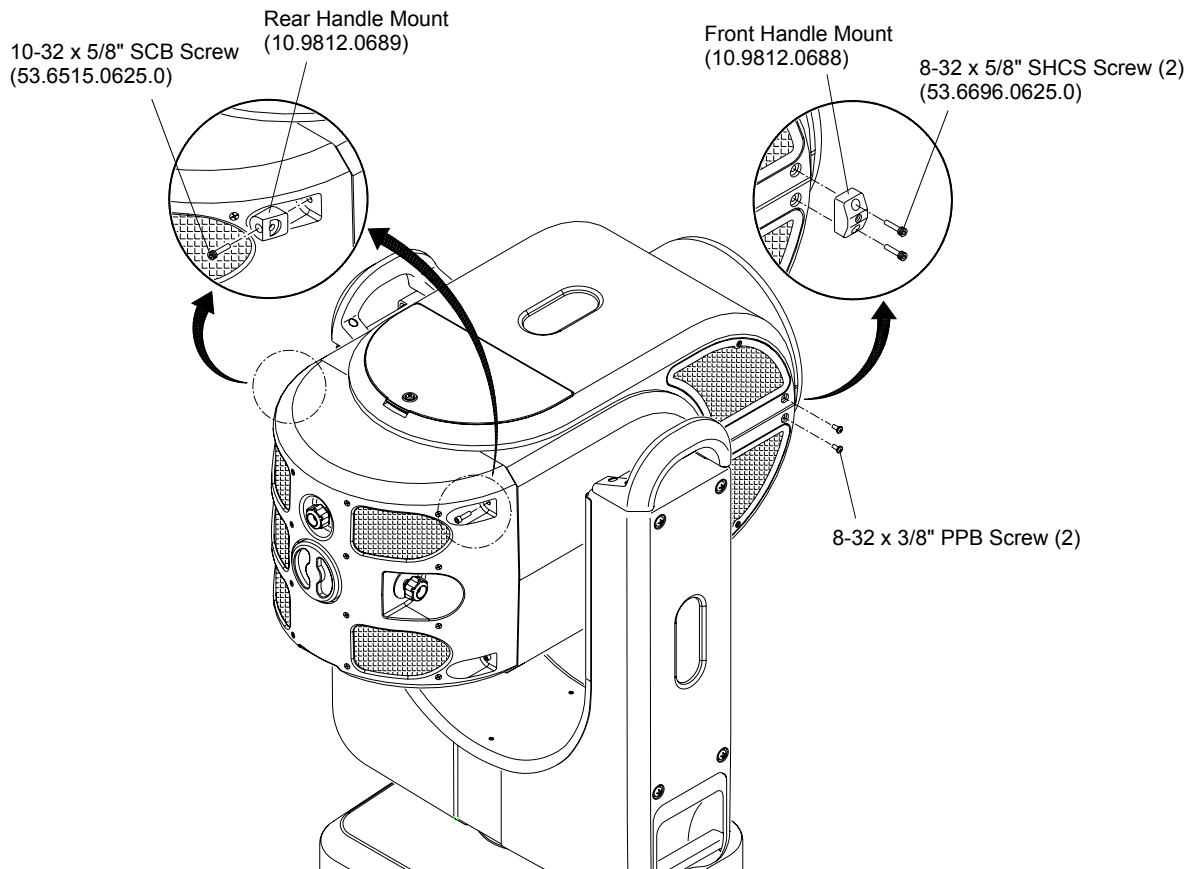

Figure 2-17: Installing Follow Spot Handles - Step 1
- Step 1. At Head Cover, remove two 8-32 x 3/8" PPB screws as shown in Figure 2-17.